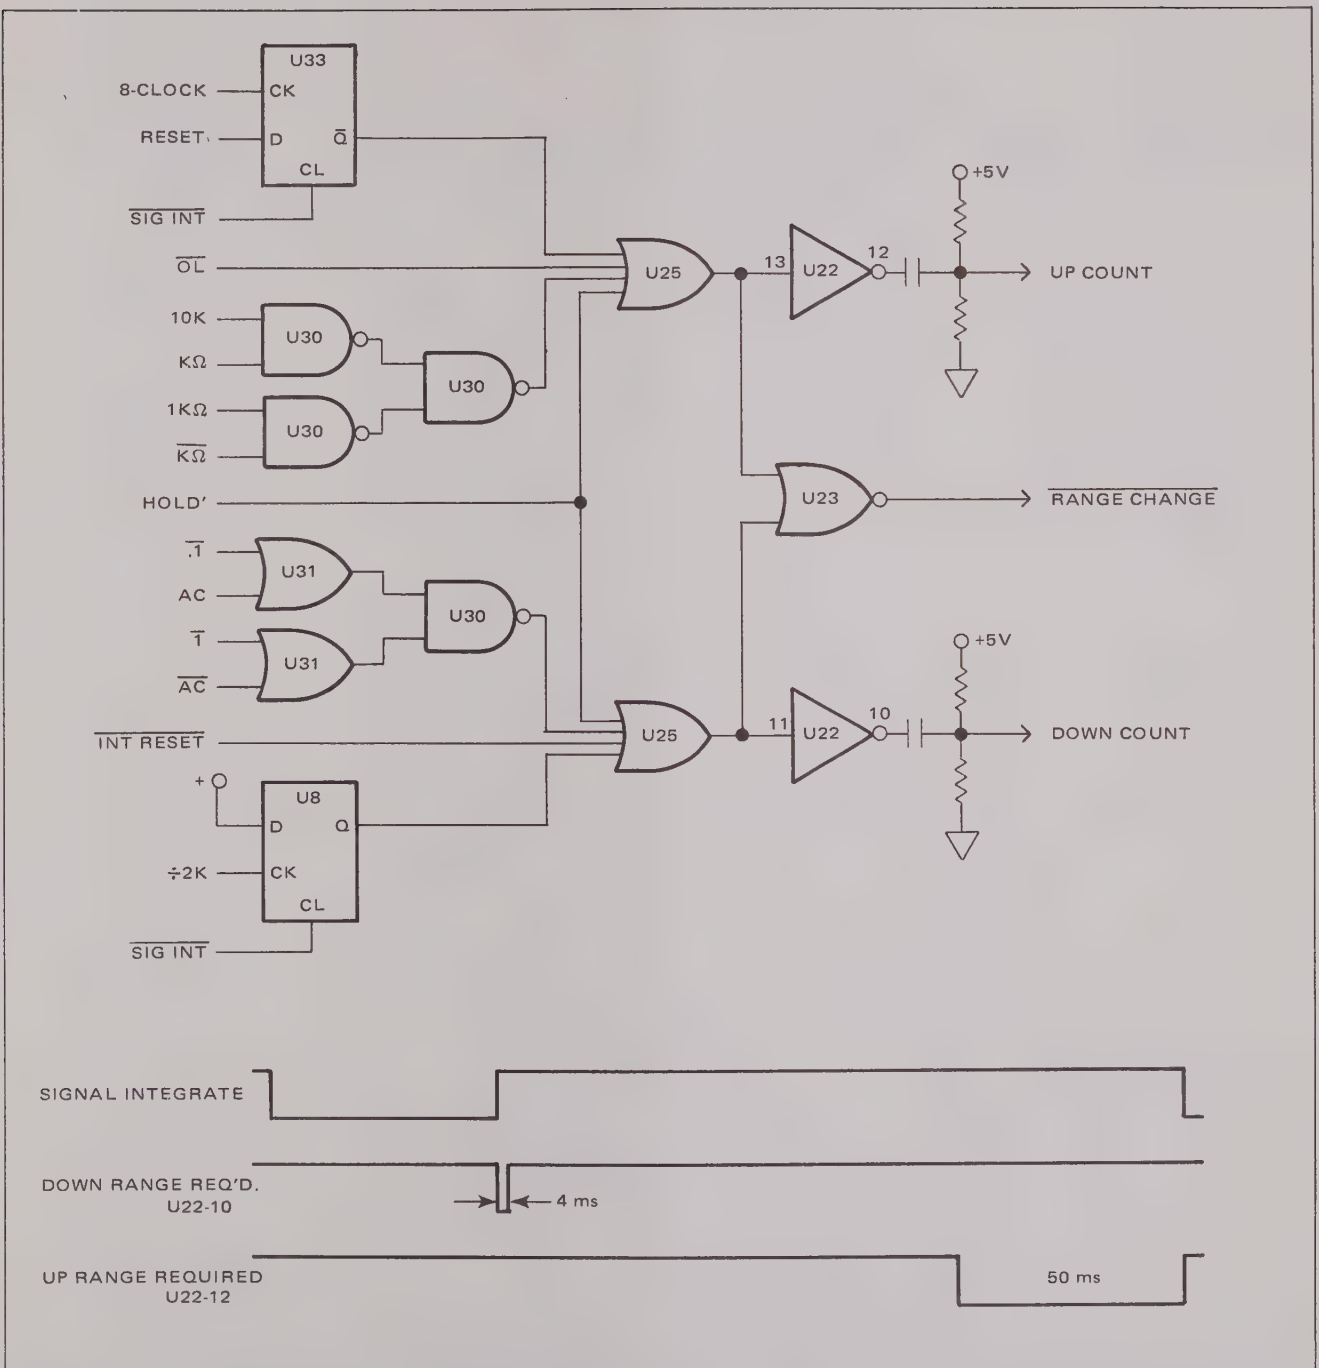

Figure 4.10 - Autorange Circuitry
4.54 The autorange circuitry is shown in figure 4.10. As indicated in the timing diagram, the down count pulse is generated at the end of the signal integrate period if $\leq 10\%$ of full-scale; the up count pulse is generated at the start of the reset period. Gates U30 and U31 prevent the counter from exceeding the upper or lower limits of the selected function. With an AC function selected, the RANGE CHANGE signal generated during an up count or down count pulse initiates a skip reading pulse, preventing the display of an erroneous reading.